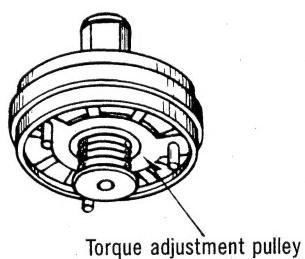

Fig. 6
3. If the measured value is not within standard, adjustment can be done by turning torque adjustment pulley attached to the takeup reel table shown in fig. 6.